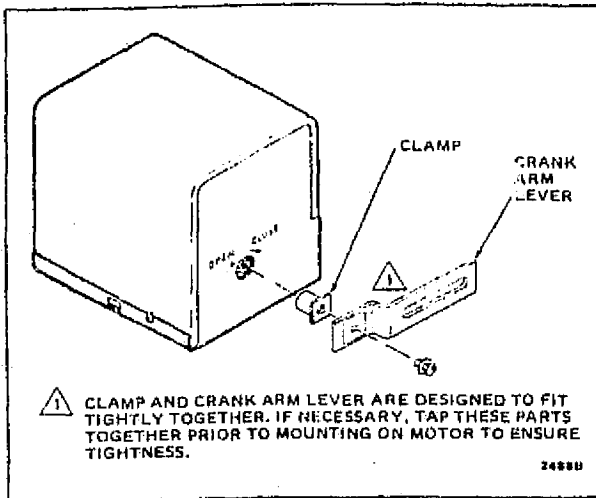

FIG. 5—EXPLODED VIEW SHOWING HOW TO MOUNT 7640JL CRANK ARM ASSEMBLY TO MOTOR.
3. 7640JL Bag Assembly - clamp and crank arm lever (for crank arm drive). Refer to Figs. 5 and 6.